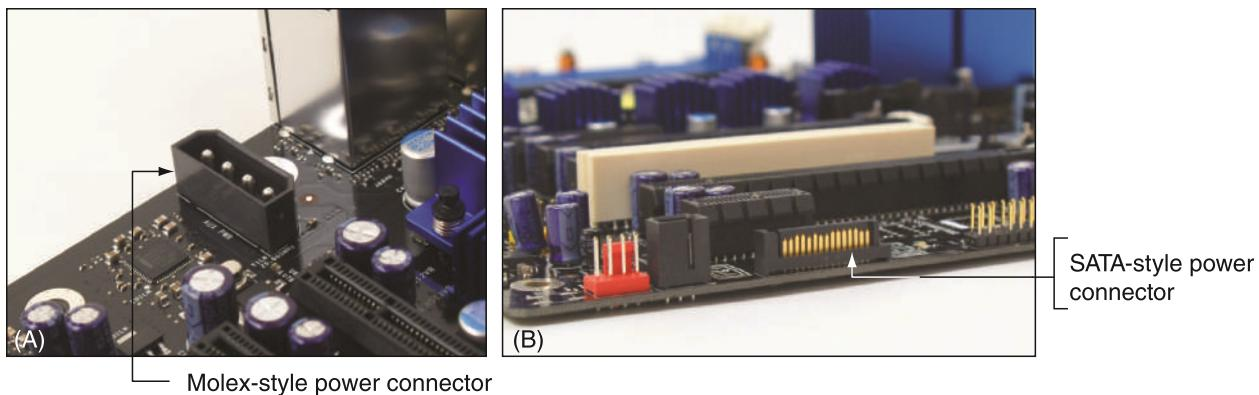

Figure 2-26 Auxiliary power connectors to support PCIe
- ▲ Some boards designed to support multiple PCIe video cards will have additional power connectors on the board to power these wattage-hungry cards. For example, Figure 2-26(a) shows a Molex-style connector on one board that provides auxiliary power to PCIe graphics cards. This same board offers a SATA-style connector, shown in Figure 2-26(b). The motherboard documentation says to use just one of these auxiliary power connectors to provide additional wattage for PCIe video cards.